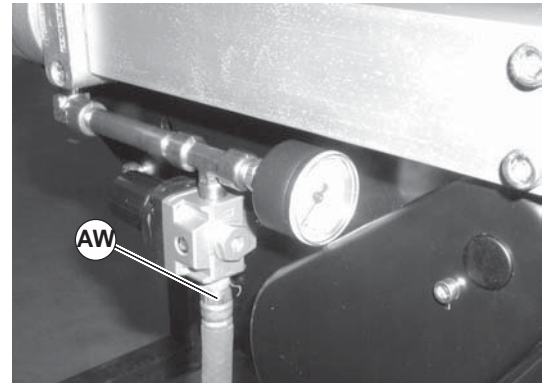

Figure 42
7. Reattach air supply (Figure 42, item AW) to center drive. Refer to “Conveyor Belt Tensioning” section on page 17 for more information.